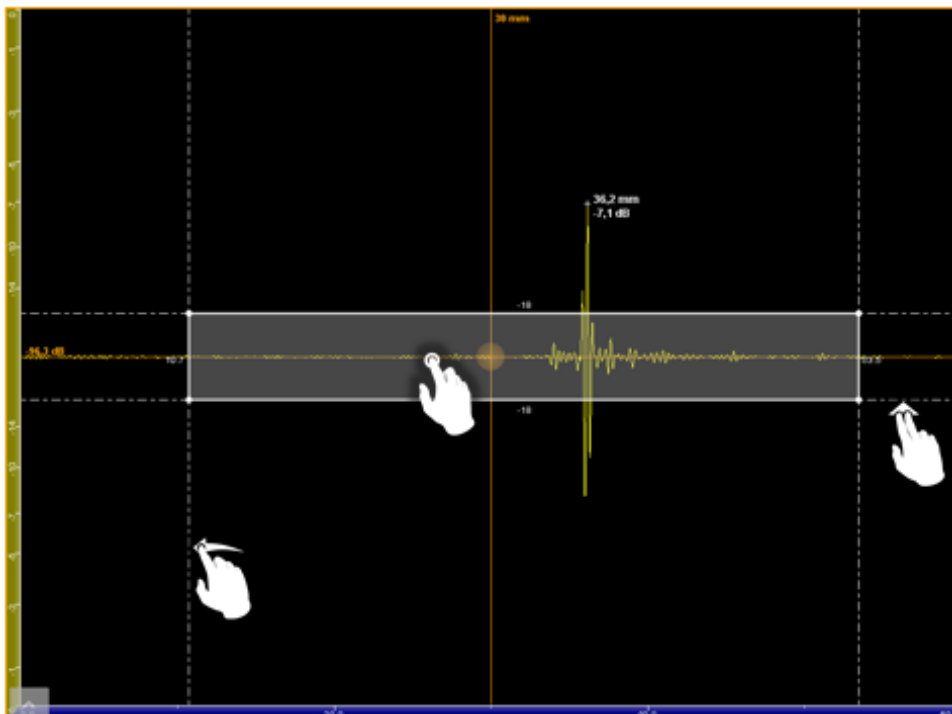

Figure 117: A-Scan zoom
- Swipe right or left to define the beginning and end of the gates. Swipe up or down the gate threshold to increase or to decrease it (Figure 117).